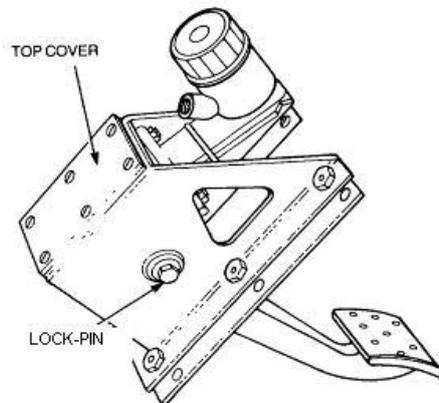

Figure 51 Top Cover Removal
- f. Remove the six screws securing the top cover and gasket to the pedal bracket (Figure 51).
- k. Remove the lock-pin from the pedal pivot (Figure 51).
- Install the lock-pin on the pedal pivot (Figure 51).